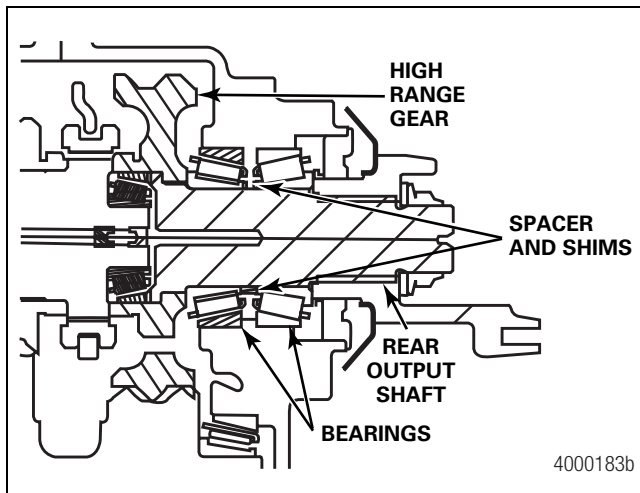

Figure 6.7
1. If the rear output shaft and cover assembly has been disassembled, install the rear output shaft, bearing cones, spacer and shims, rear oil seal and yoke into the rear cover. Temporarily tighten the yoke nut to 200 lb-ft (271 N•m). Place the rear cover on the bench to measure bearing end play. Figure 6.7. ①